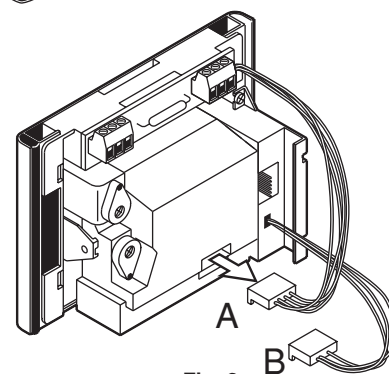

Fig. 2
2. Remove connector A from the TV camera module (Fig. 2)